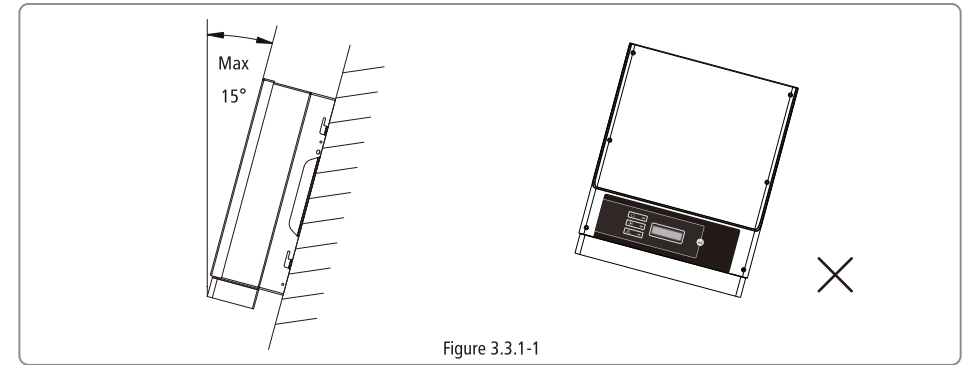

Figure 3.3.1-1
- The inverter must be installed vertical or with a backward tilt less than 15°. No sideways tilt is allowed. The connection area must point downwards. Refer to Figure 3.3.1-1.